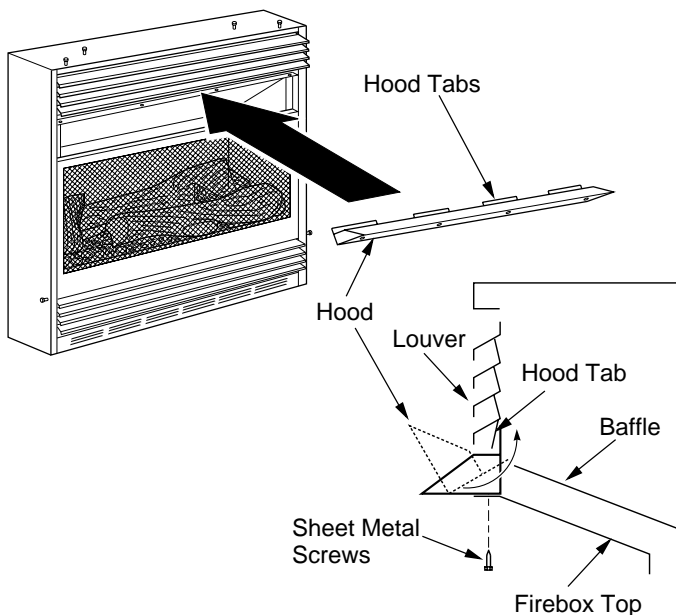

Figure 4 - Assembling Hood
2. Rotate hood as shown in Figure 4. Make sure hood tabs point toward fireplace.
3. Insert hood tabs between baffle and louvers (see Figure 4).
4. Gently rotate hood to upright position. Make sure hood tabs are behind louvers and hood is resting on firebox top (see Figure 4).
6. Insert screws as shown in Figure 4. Tighten screws firmly.